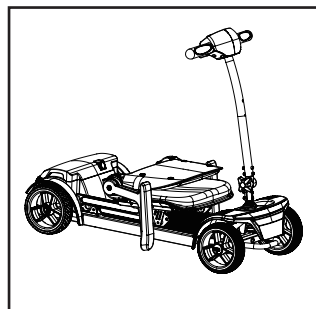

Figure 11
3. Adjust the Armrests: Fold down the left and right armrests one after the other until they rest flat against the seat(see figure 11).